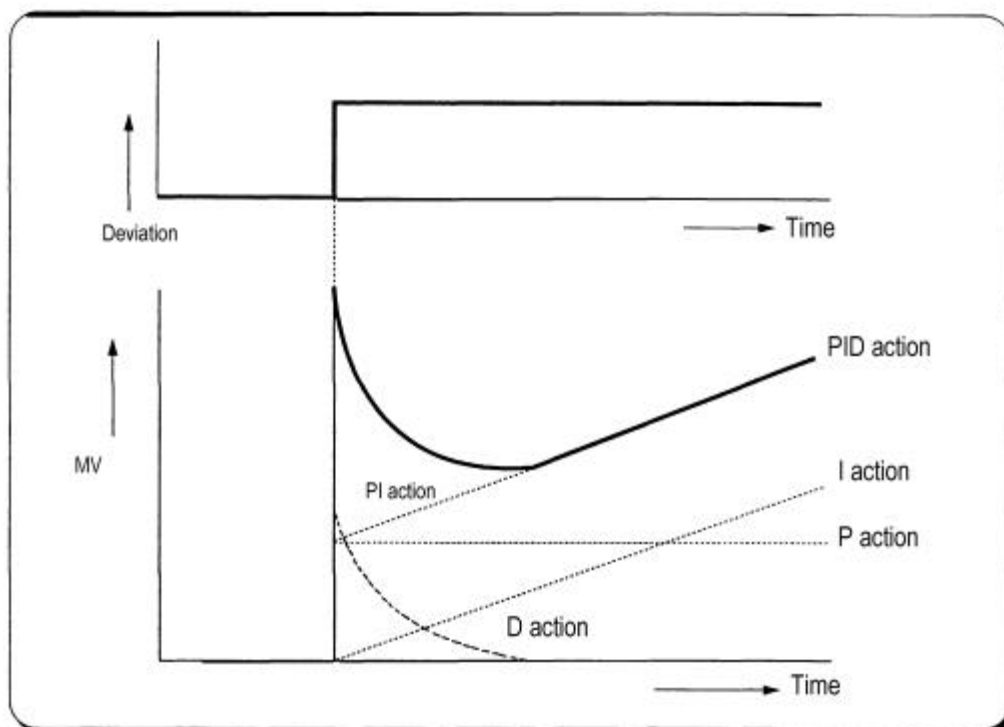

Fig. 15.8 PID action with a constant deviation
- 2) PID action with a constant deviation is shown as the following figure 15.8.